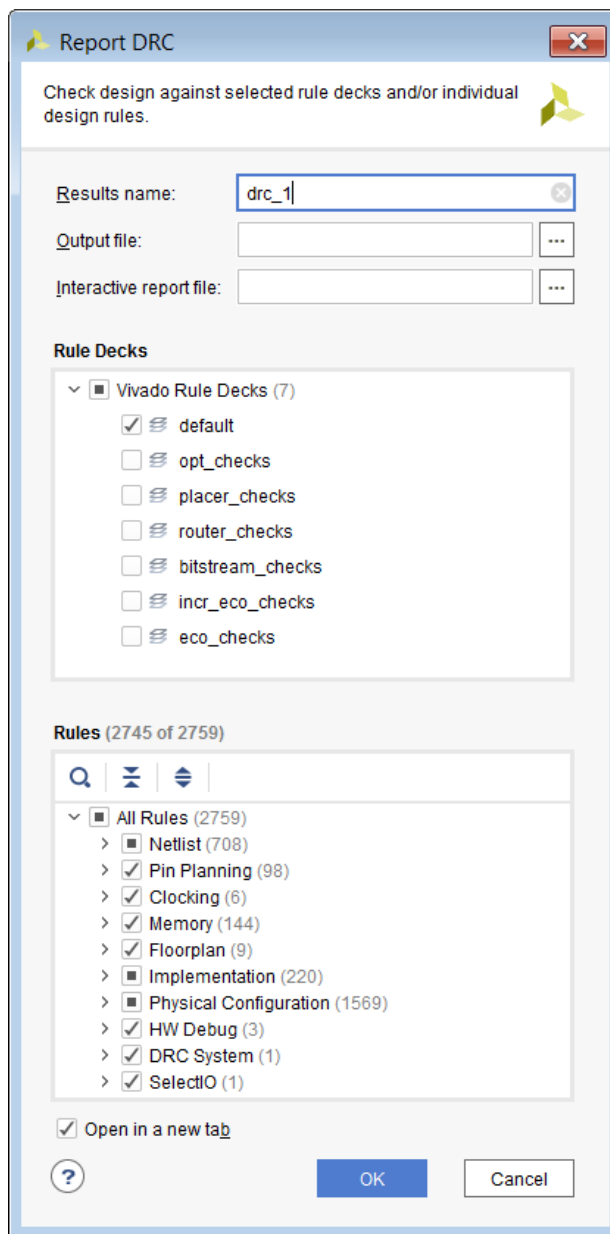

Figure 6-1: Report DRC Dialog Box
2. In the Report DRC dialog box (Figure 6-1), set the following options, and click **OK**: